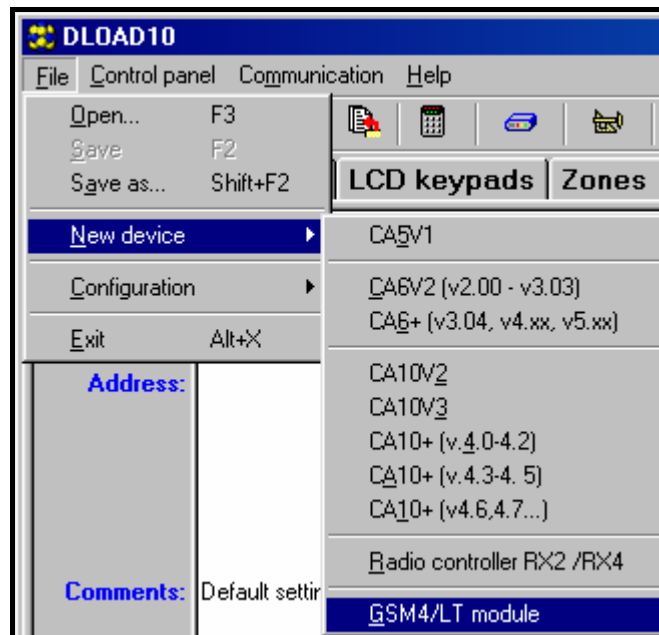

Figure 9.
1. Open the window with module data by selecting **File→New device→GSM4/LT module** in the program menu (see: Fig. 9).